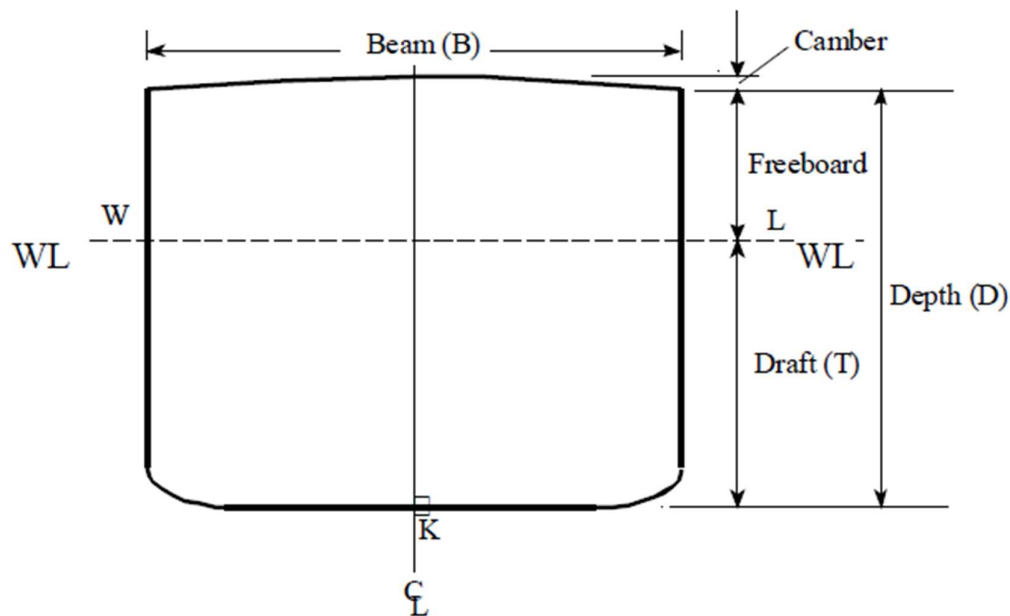

Figure 2.2 Hull characteristics (transverse view):
Ship Breadth (or Beam, B). The most commonly used definitions for the breadth of the ship (Figure 2.2) are :
- **Moulded Beam** is the greatest distance between the inside of plating on the two sides of the ship at the greatest width at the section chosen (Figure 2.2).
- **Breadth extreme** is measured to the outside of plating but will also take account of any overhangs or flare (Figure 2.2).
Ship Depth (or moulded depth, D) varies along the length but is usually quoted for amidships. It is measured from the underside of the deck plating at the ship's side to the top of the inner flat keel plate (Figure 2.2). Unless otherwise specified, the depth is to the uppermost continuous deck. **D** is used to determine the ship's volume and the freeboard. It also influences the longitudinal strength.